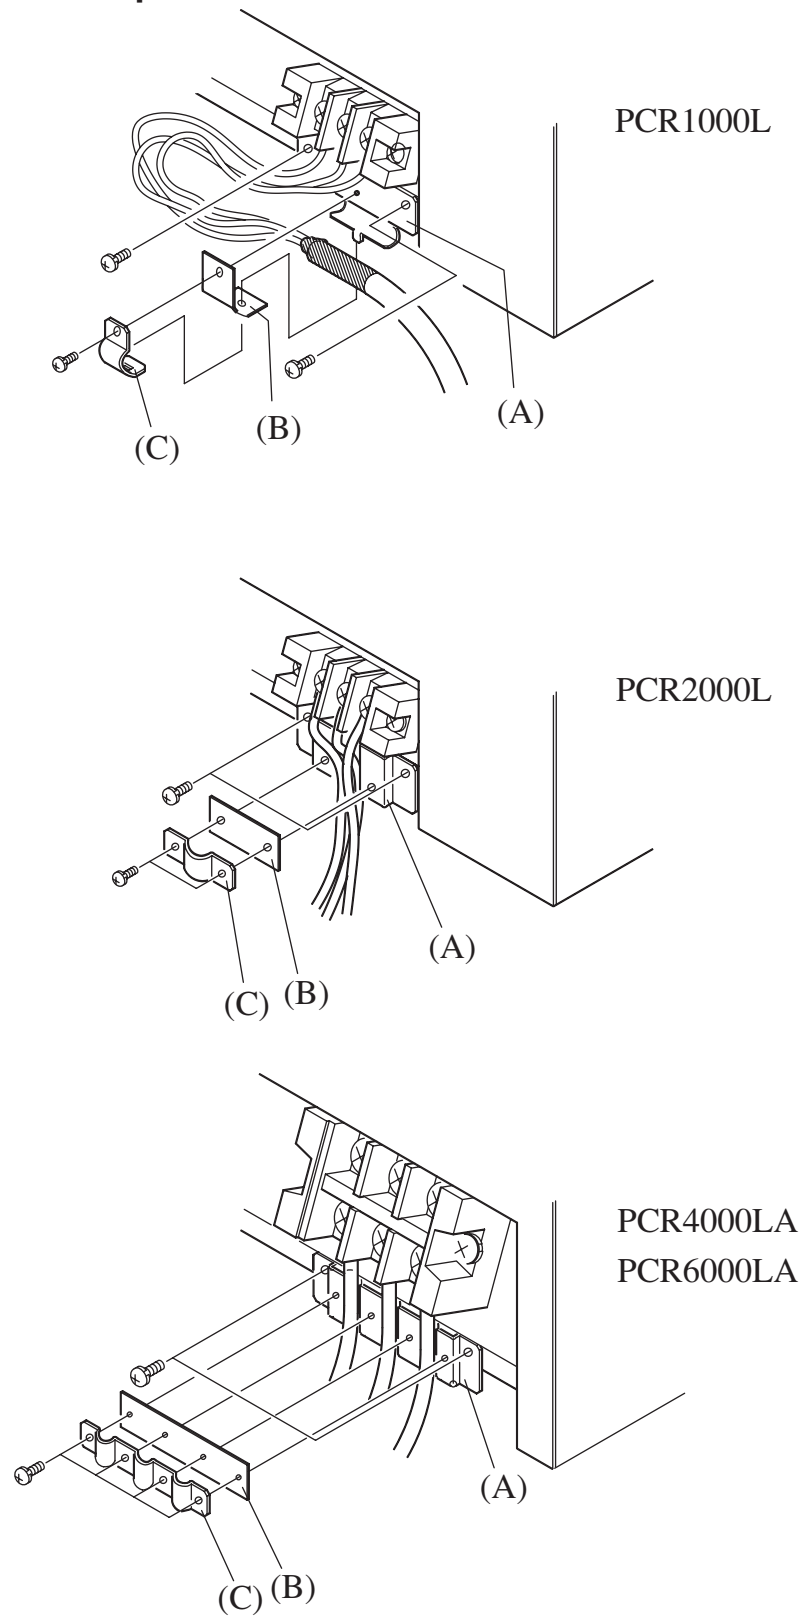

Fig. 2-11 Installing a Cable Clamper
5. Install the cable clamber provided, and fix the input power cable securely (Fig. 2-11).